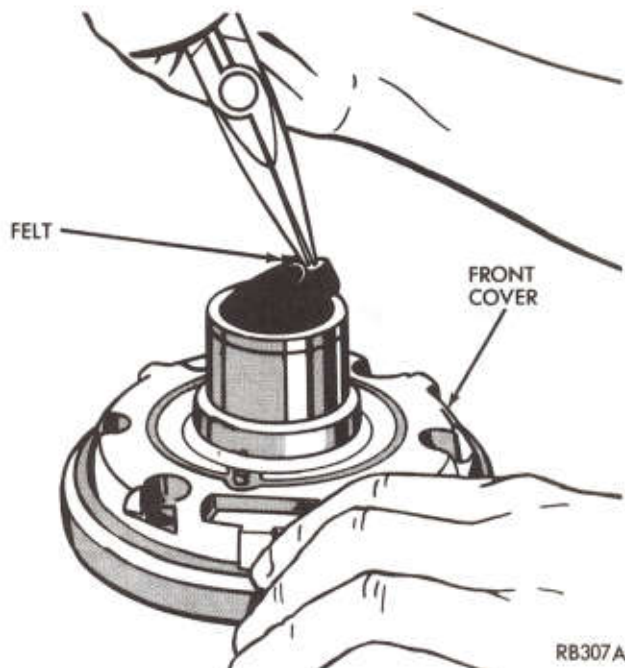

Fig. 5—Removing Felt
- (5) Remove felt from front cover (Fig. 5).